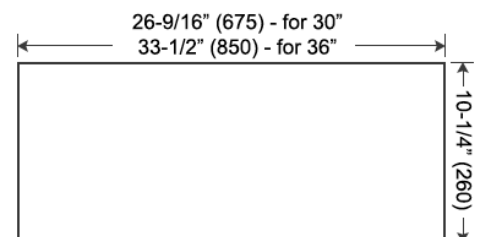

Figure 2
13. Cut out the opening where the insert will be installed. Refer to Figure 2.
15. Locate the screw holes (4) on each side of the insert. Adjust the level of the hood casing support according to the thickness of the base.